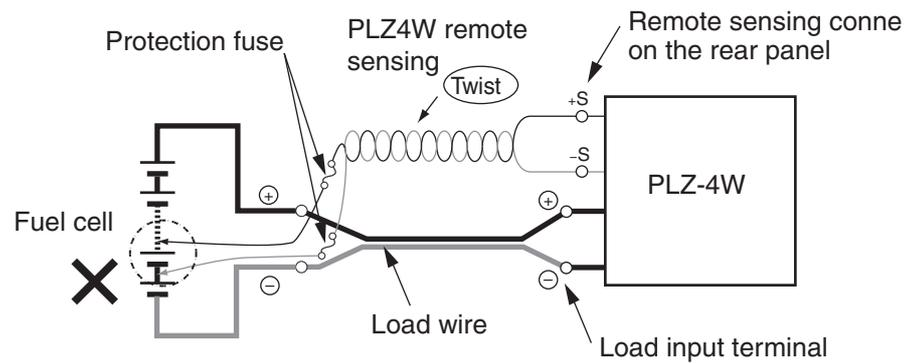

Fig. 2-7 Example of a unrecommended wiring
- ⚠ CAUTION** • The PLZ4W remote sensing circuit may break. Do not connect the remote sensing terminals (+S and -S terminals) on the rear panel of the PLZ-4W series directly to the cell of the fuel cell (Fig. 2-7).